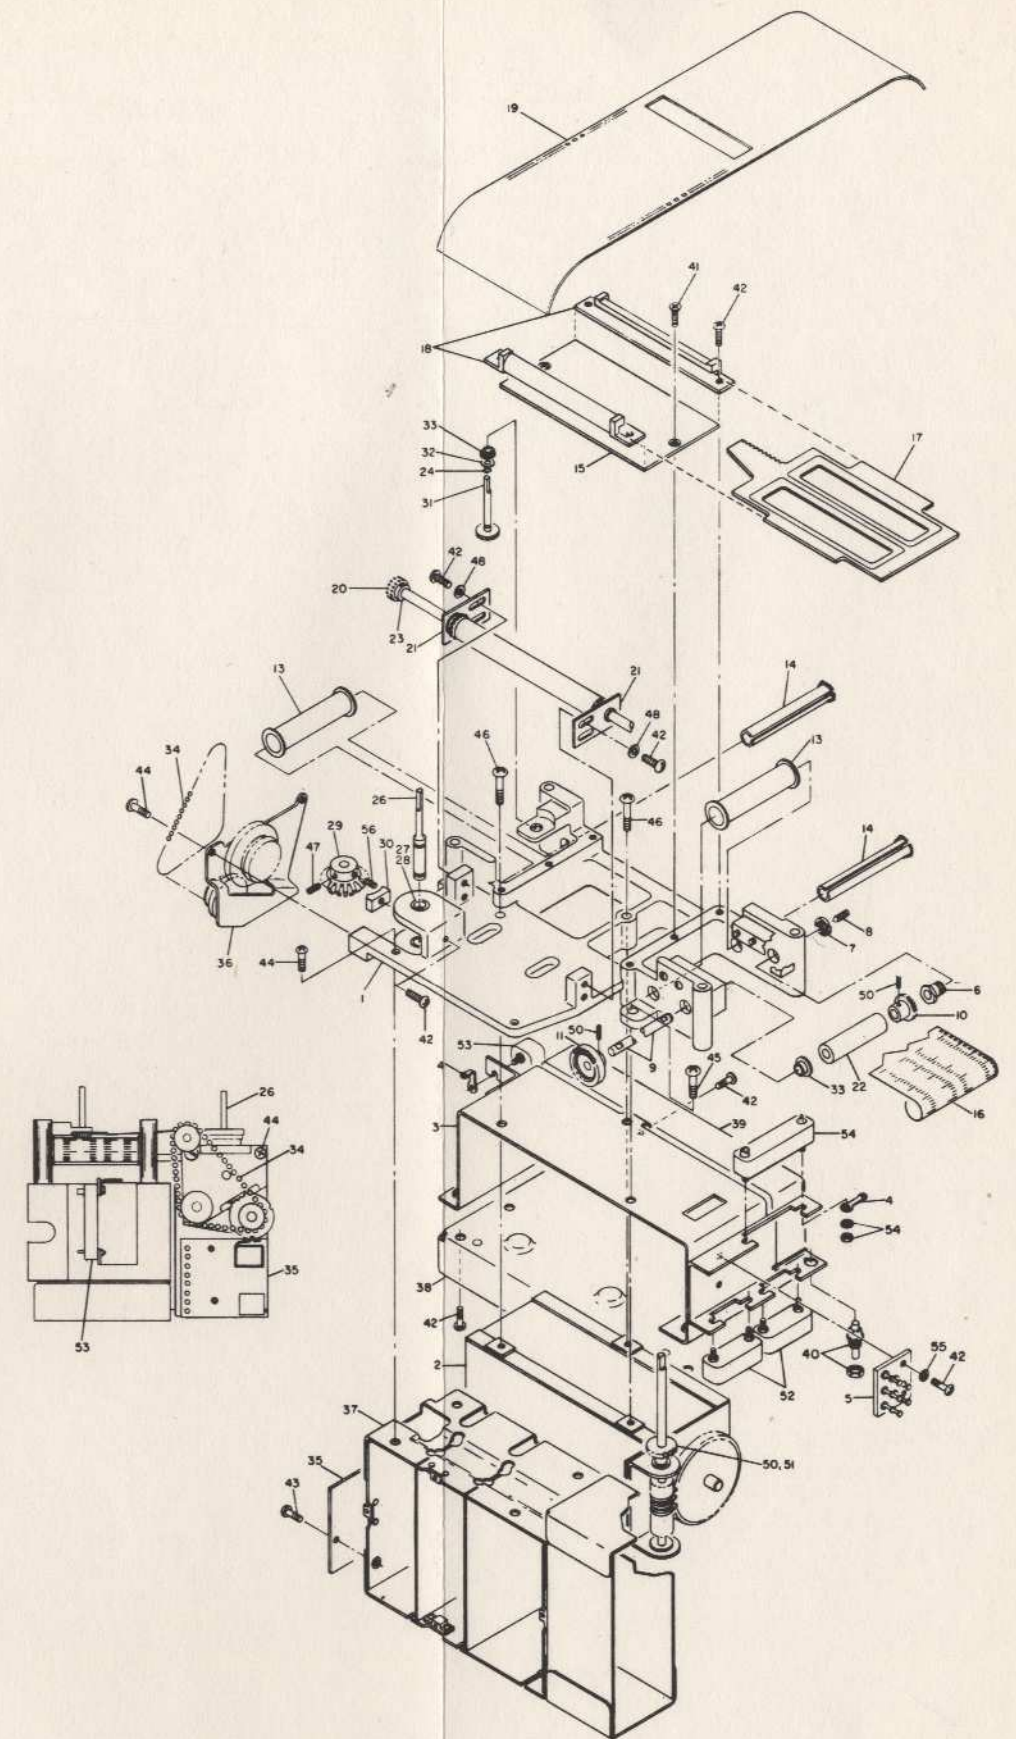

Figure 5-11. RR-224 Receiver Assembly, Exploded View
- (1) Solder the previously tagged wires to the board.
- (2) Replace the board on the receiver being sure that the actuator on microswitch S1 is in the notch on the cam, gear assembly (36) (figure 5-11).
- (3) Replace the two screws that secure the board to the receiver.
- (4) Rotate the receiver bandswitch while checking switch S1 contacts with a VOM meter. The switch should activate between bands to mute the receiver. If adjustment is necessary, loosen the two screws securing the board (figure 5-11) and adjust the board for proper action.
- (1) Before removing the receiver from the front panel, accurately set the dial to 2 MHz in BAND 1 using the built in calibrator.
- (2) Remove the receiver from the front panel, being very careful not to disturb the vernier dial setting or the receiver TUNE control. See paragraph 5.4.
- (3) Position the receiver so that the front is facing up.
- (4) Locate the crown gear (11) that is connected to the tape readout drive shaft (9).
- (5) There are two set screws (50) on the crown gear (11). One set screw should be at the top of the crown gear and the other should be on the left. Rotate the receiver tune shaft counterclockwise until the set screw, that was on the left, is on top; then loosen. Again rotate the tune shaft, this time clockwise, so that the second set screw is now on top and 2 MHz on the tape readout is positioned correctly; then loosen. Push the crown gear (11) away from the tune shaft gear (51). Do not allow the tune shaft to rotate or the two gears to mesh.
- (6) Remove the two tape readout guides (12).
- (7) Remove the vernier dial (17) by sliding it out the end where the guides (12) were attached.
- (8) Remove the pin (17) from the spool (13) at the end opposite that of the receiver tune shaft. Remove the spool by rotating it outward while holding the tape on the spool.
- (9) Gently pull the tape out from the left side, being very careful not to allow the crown gear (11) to mesh with the drive gear (51).
b. Replacement of Tape Readout (figure 5-11)
- (1) Replace spool (13) and pin (14) on the left side of the receiver.
- (2) Roll the tape (16) so that the high frequency numbers are on the outside of the roll.
- (3) Carefully feed the end of the tape under the tape spacer (22), making sure the holes in the edge of the tape are toward that side of the receiver where the audio module is mounted. Allow the tape to curl around the spool. Permit an inch or so of tape to extend as a "tab".
- (4) Bring the tape tab up and over the tape spacer (22) and carefully feed it under the mask assembly (19) through to the other side and let it curl around the spool (13) on the left side of the receiver. Be careful not to allow the crown gear and drive gear to mesh.
- (5) Replace the vernier dial and adjust it to the midpoint position.
- (6) Replace the two tape guides (12).
- (7) Push the tape through until the 2 MHz reading on the tape corresponds to the center marking on the vernier dial, where it is in its midposition. Be careful that the crown gear and drive gear do not mesh.
- (8) Turn the crown gear (11), without meshing with the drive gear (31), until one of the set screws is on top and the other is on the left.
- (9) Mesh the crown gear (11) with the drive gear (51) and tighten the top set screw. Rotate the tune shaft counterclockwise until the second set screw is on top, then tighten.
- (10) Check the back lash between the crown gear (11) and the drive gear (51). If back lash is excessive, adjust the set screw (50), located in the spanner nut (7).
- (2) Remove five screws (20) securing the low level module (figures 5-11 and 5-15).
- (3) Remove the nut and washer from the band switch.
- (4) Unplug the low level module and remove it and the switch from the bracket.
- (5) Carefully unsolder the reflect ALC coax, the forward ALC coax, the receiver spot coax, coax to 1A4J6, and the low level module key line. Disconnect the RF sampler control lines from the band switch.
- (6) If the low level board is to be replaced, unsolder band switch wires at the board.